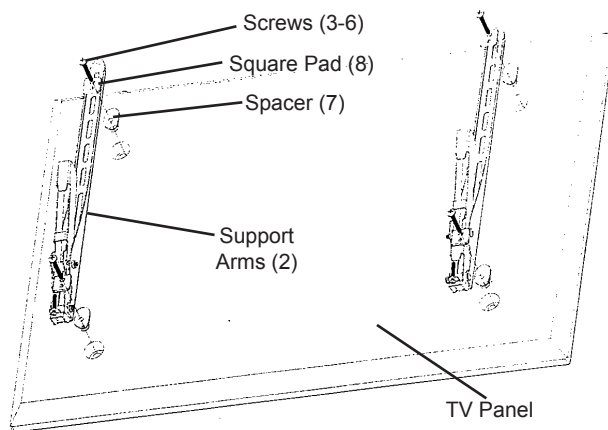

Figure 4
4. Locate the mounting holes on back of TV and select mounting Screws (3-6) that fit properly. **NOTE:** If you do not find the appropriate-sized Screws, refer to TV owners manual or contact TV manufacturer. Thread the Screws (3, 4, 5 or 6) through the Square Pads (8), the Support Arms (2), Spacers (7) and into the mounting holes in the back of TV panel. See Figure 4, below.